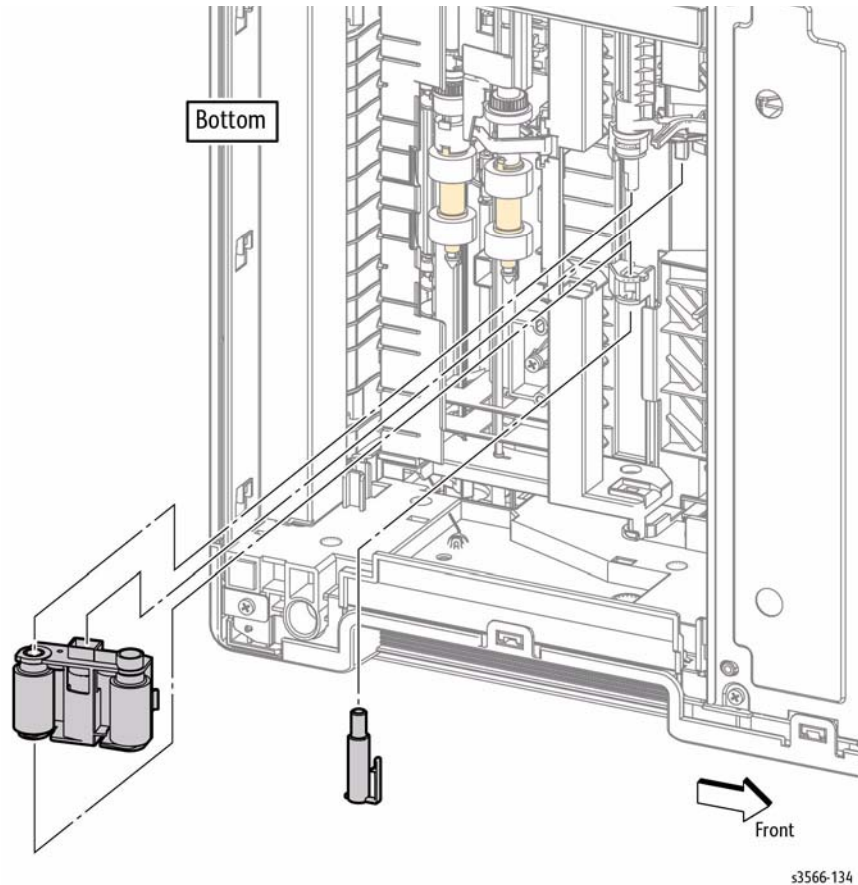

Figure 1 Remove the Pick-up Assembly
2. Refer to Figure 1 to locate and release the clip that secures the pick-up flange to remove the assembly.